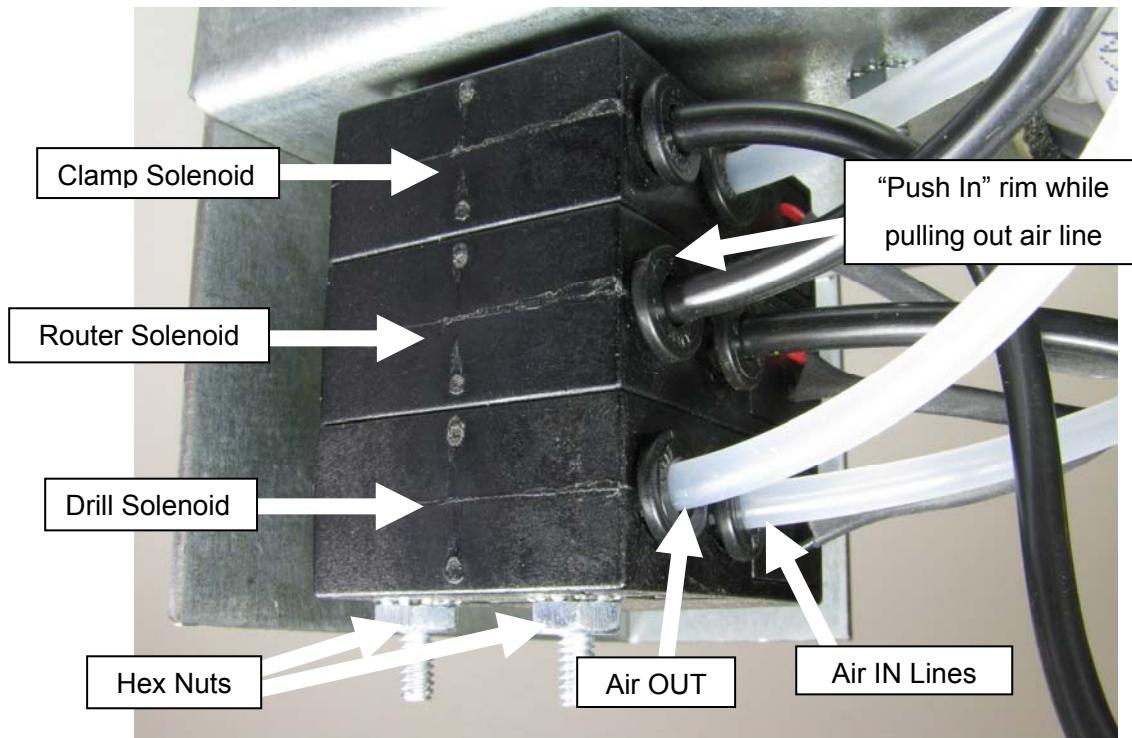

Fig 31
6. See fig. 31.
4. Label the three solenoids and remove the two hex nuts and lock washers that hold the solenoids together. **See Fig 31.**